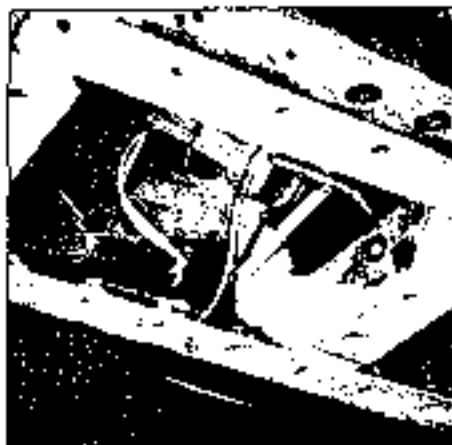
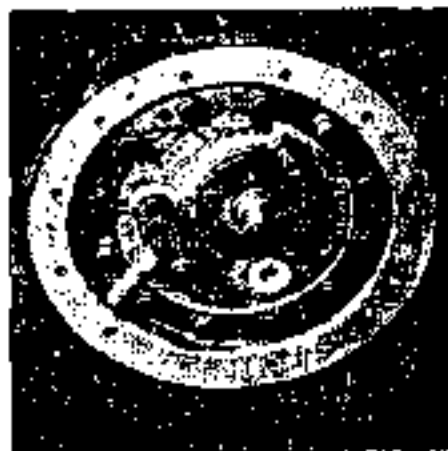

Fig. 7-24 Remove electric terminal from transfer pump
Fig. 7-25 Remove transfer pump
- (1) Place FUEL TRANSFER switch on LH instrument panel to OFF, open TRANS CONT circuit breaker, and turn aircraft power OFF.
- (2) Remove access door from bottom of outer tank at W STA 2590 to 2910.
- (3) Drain outer tank.
- (4) Remove access door from bottom of outer tank leading edge at W STA 2590 to 2910.
- (5) Remove electric terminal from transfer pump, Fig 7-24.
- (6) Remove a bolt that attaches fuel discharge port fitting to the transfer pump. Screw a removing bar (GSE 016A-99072) in the bolt hole. Installation torque of the bolt is 75 to 85 in-lbs (86.4 to 97.9 kg-cm).
- (7) Cut safety wires of bolts that hold transfer pump in position. Remove bolts. Installation torque of the bolts is 25 to 35 in-lbs (28.8 to 40.3 kg-cm).
- (8) Draw transfer pump out by the removing bar, see Fig 7-25.
- (9) Remove transfer pump drain valve. Installation torque of the valve is 25 to 35 in-lbs (28.8 to 40.3 kg-cm).
- (10) Remove hose fitting from fuel discharge port. Remove transfer pump.
- (11) Install in reverse sequence of removal.